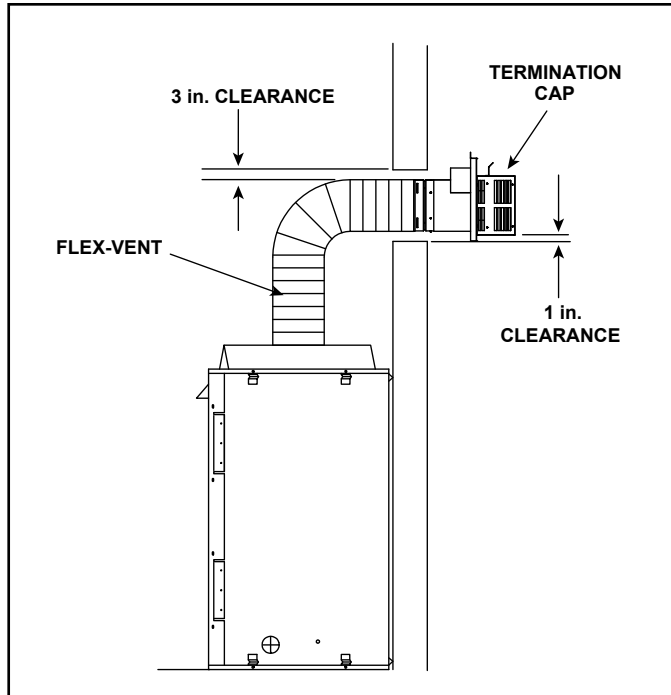

Figure 4.8 Flex Vent Pipe - Generic Fireplace Shown
A support is required at each change in venting direction, and in any location where it is necessary to maintain the necessary clearance to combustibles. A simple “up and out” installation (Figure 4.8) requires only enough support to maintain the necessary clearance to combustibles. However, the vent attachment point and the firestop location are considered to be supports.
**Note:** There **MUST** be a 25% reduction in total H when using SLP-FLEX Series (6-5/8 inch) vent except when using the simple up and out installation. See Figure 4.8.
**Note:** There MUST be a 25% reduction in total H when using SLP-FLEX Series (6-5/8 inch) vent except when using the simple up and out installation. See Figure 4.8.